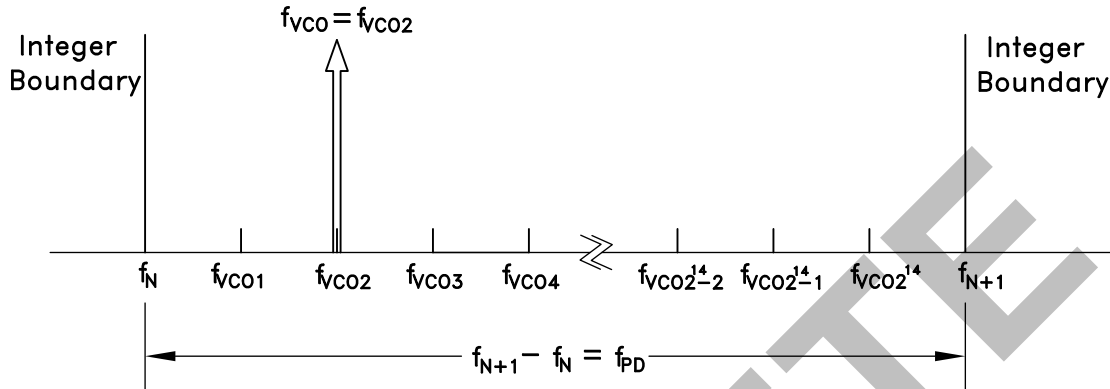

Figure 71. Exact Frequency Tuning
and  $f_{VCOk}$  are the channel step frequencies where  $0 < k < 2^{24}-1$ , As shown in Figure 71.
Some fractional PLLs are able to achieve this by adjusting (shortening) the length of the Phase Accumulator (the denominator or the modulus of the Delta-Sigma modulator) so that the Delta-Sigma modulator phase accumulator repeats at an exact period related to the interval frequency ( $f_{VCOk} - f_{VCO(k-1)}$ ) in Figure 71. Consequently, the shortened accumulator results in more frequent repeating patterns and as a result often leads to spurious emissions at multiples of the repeating pattern period, or at harmonic frequencies of  $f_{VCOk} - f_{VCO(k-1)}$ . For example, in some applications, these intervals might represent the spacing between radio channels, and the spurious would occur at multiples of the channel spacing.
If it is desirable to have multiple, equally spaced, exact frequency channels that fall within the same interval (ie.  $f_N \leq f_{VCOk} < f_{N+1}$ ) where  $f_{VCOk}$  is shown in Figure 71 and  $1 \leq k \leq 2^{24}$ , it is possible to maintain the same integer-N (Reg 03h) and exact frequency register (Reg 0Ch) settings and only update the fractional register (Reg 04h) setting. The Exact Frequency Channel Mode is possible if (EQ 16) is satisfied for at least two equally spaced adjacent frequency channels, i.e. the channel step size.
To configure the HMC1190LP6GE for Exact Frequency Channel Mode, initially and only at the beginning, integer (Reg 03h) and exact frequency (Reg 0Ch) registers need to be programmed for the smallest  $f_{VCO}$  frequency ( $f_{VCO1}$  in Figure 71), as follows:
1. Calculate and program the integer register setting Reg 03h =  $N_{INT} = \text{floor}(f_{VCO1}/f_{PD})$ , where  $f_{VCO1}$  is shown in Figure 71 and corresponds to minimum channel VCO frequency. Then the lower integer boundary frequency is given by  $f_N = N_{INT} \cdot f_{PD}$ .
$\text{Reg04h} = N_{FRAC} = \text{ceil}\left(\frac{2^{24} \left(\frac{f_{VCOk} - f_N}{f_{PD}}\right)}{f_{PD}}\right)$  where  $f_N = \text{floor}(f_{VCO1}/f_{PD})$ , and  $f_{VCO1}$ , as shown in Figure 71, represents the smallest channel VCO frequency that is greater than  $f_N$ .
4. To change from channel 1 ( $f_{VCO1} = 2800.2$  MHz) to channel 2 ( $f_{VCO2} = 2800.3$  MHz), only **Reg 04h** needs to be programmed, as long as all of the desired exact frequencies  $f_{VCOk}$  (Figure 71) fall between the same integer-N boundaries ( $f_N < f_{VCOk} < f_{N+1}$ ). In that case